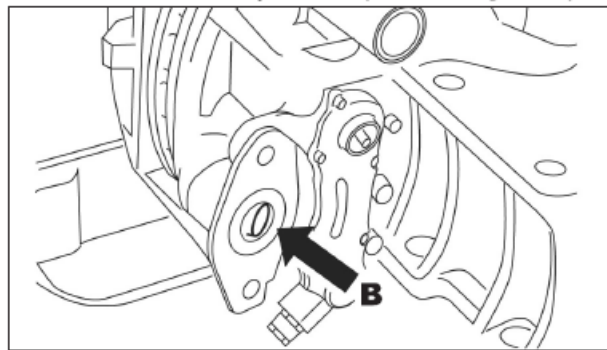

Figure 13: Spring Brake Installation
16. Ensure the spring brake chamber mounting is clean and free of any debris. See **Figure 13, Item B**.